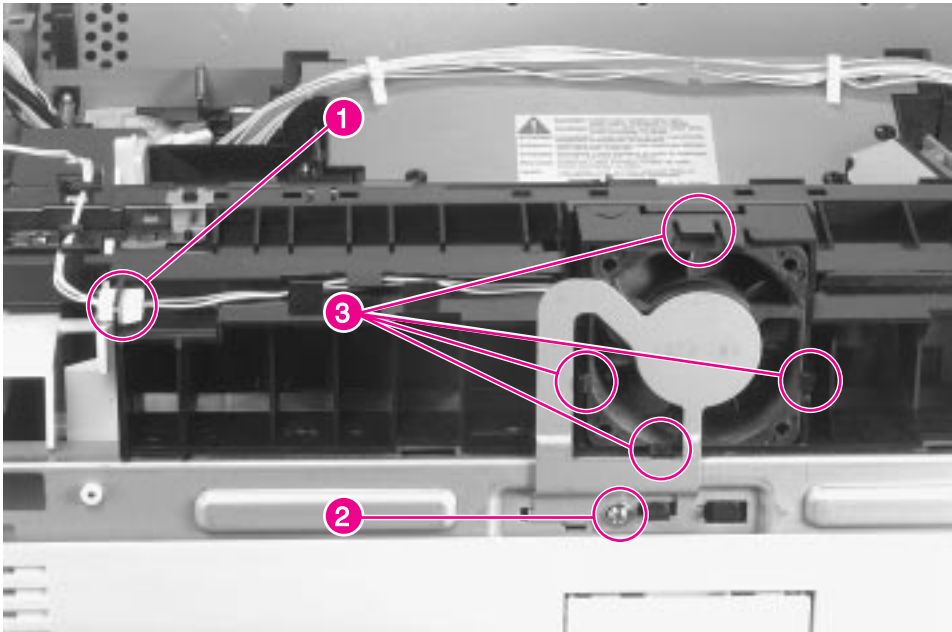

Figure 6-22 Fan 4, Delivery Unit
- 2 Unplug the fan cable (figure 6-22, callout 1).
- 3 Remove 1 screw (figure 6-22, callout 2), and remove the metal fan shield.
- 4 Release 4 retainer clips (figure 6-22, callout 3), and slide the fan forward out of the Delivery Unit Assembly.